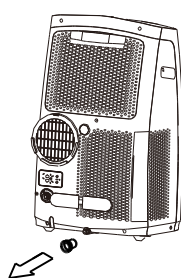

Fig.22
- When the water level of the bottom tray reaches a predetermined level, the unit beeps 8 times, the digital display area shows "P1". At this time the air conditioning/dehumidification process will immediately stop. However, the fan motor will continue to operate (this is normal). Carefully move the unit to a drain location, remove the bottom drain plug and let the water drain away (Fig.22). Reinstall the bottom drain plug and restart the machine until the "P1" symbol disappears. If the error repeats, call for service.
- Remove the plug from the bottom drain outlet, all the water in the bottom tray would drain out (See Fig.22).